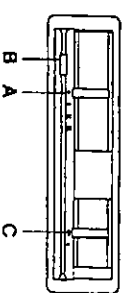

Fig. 6
- 4 position motor control switch (OFF, 1st, 2nd, and 3rd speed positions) (Figure 6 Ref A)
- Control Light for motor operation (Fig.6 Ref B)
- Light switch (Figure 6 Ref C).